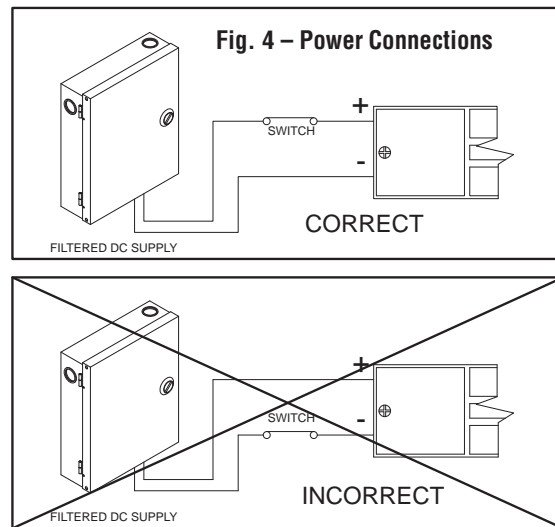

**Fig. 3 – Lock Wiring**
- Once wiring has been routed into the lock cavity, connect wire to terminal blocks as shown in Fig. 3. If Door Status Monitor (DSM) and/or Magnetic Bond Sensor (MBS) features are being used, these can also be wired at this time as shown in Fig. 3.
The M390RFK lock is equipped with remote indication features that operate as follows. Each of these features will provide indication as to the lock status. See Fig. 3 for wiring diagram.